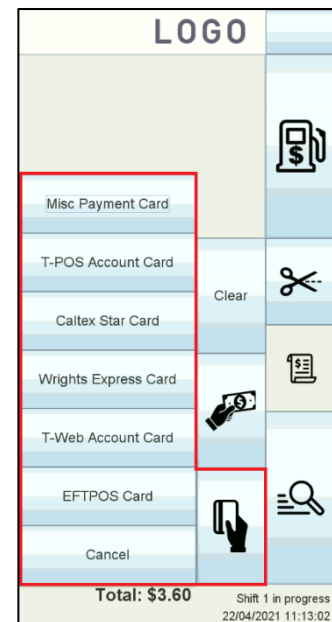

Figure 29: Selecting a Payment Type
1. Access the functionality from **Menu** → **Settings** → **Payment Types**. (see Figure 29)